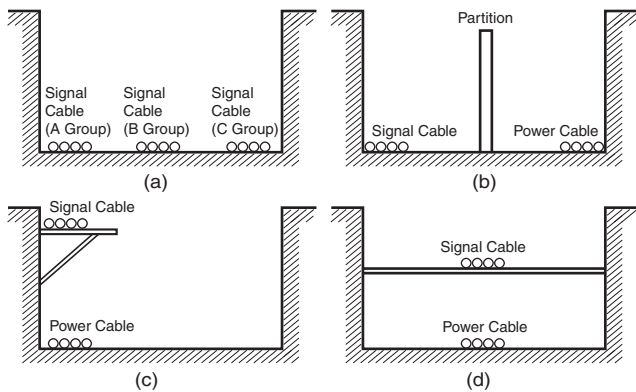

Figure 9. Isolating Signal and Power Cables
- (1) Isolate signal cables with different characteristics when routed in the same duct.
- (2) Routing more than one power line in the same duct should be avoided as much as possible. Where this cannot be avoided, place a partition in the duct and ground it. (See Figure 9)